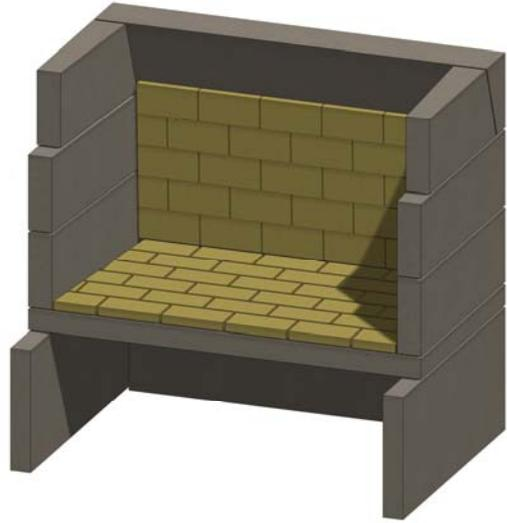

Figure 18. Back Wall Firebrick
K. Install firebrick on the back wall, with the brick laid on edge. See Figure 18.